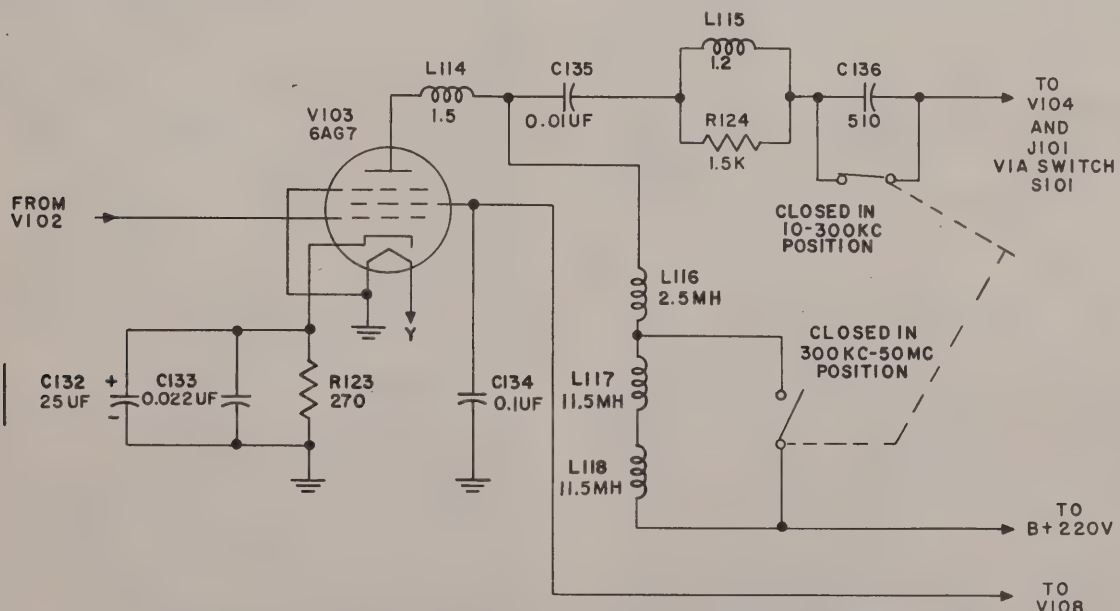

Figure 2-4. Simplified Schematic Diagram of the Output Amplifier Stage
d. OUTPUT AMPLIFIER (See figure 2-4).
The output amplifier uses a power pentode type 6AG7, (V103). Bias for this stage, operating Class A, is obtained by the voltage drop across cathode resistor (R123). In order to bypass this resistor properly at all signal frequencies generated, capacitors C132, 25 uf, and C133, .022 uf, are used in parallel combination. The signal to be amplified, which may be modulated by an internally or externally generated audio frequency, appears at the grid (pin 4) of the tube (V103). The plate output circuit contains three major branches; first, the plate voltage is shunt-fed through the r-f chokes L116, L117, and L118 (Fig. 2-4). Next there is a series compensating network consisting of L114, L115, and its damping resistor (R124). C135 is simply a coupling capacitor. The 499 ohm resistor (R130) and the 55.56 ohm input impedance of step attenuator (AT101) in
(See figures 2-4 and 2-8).